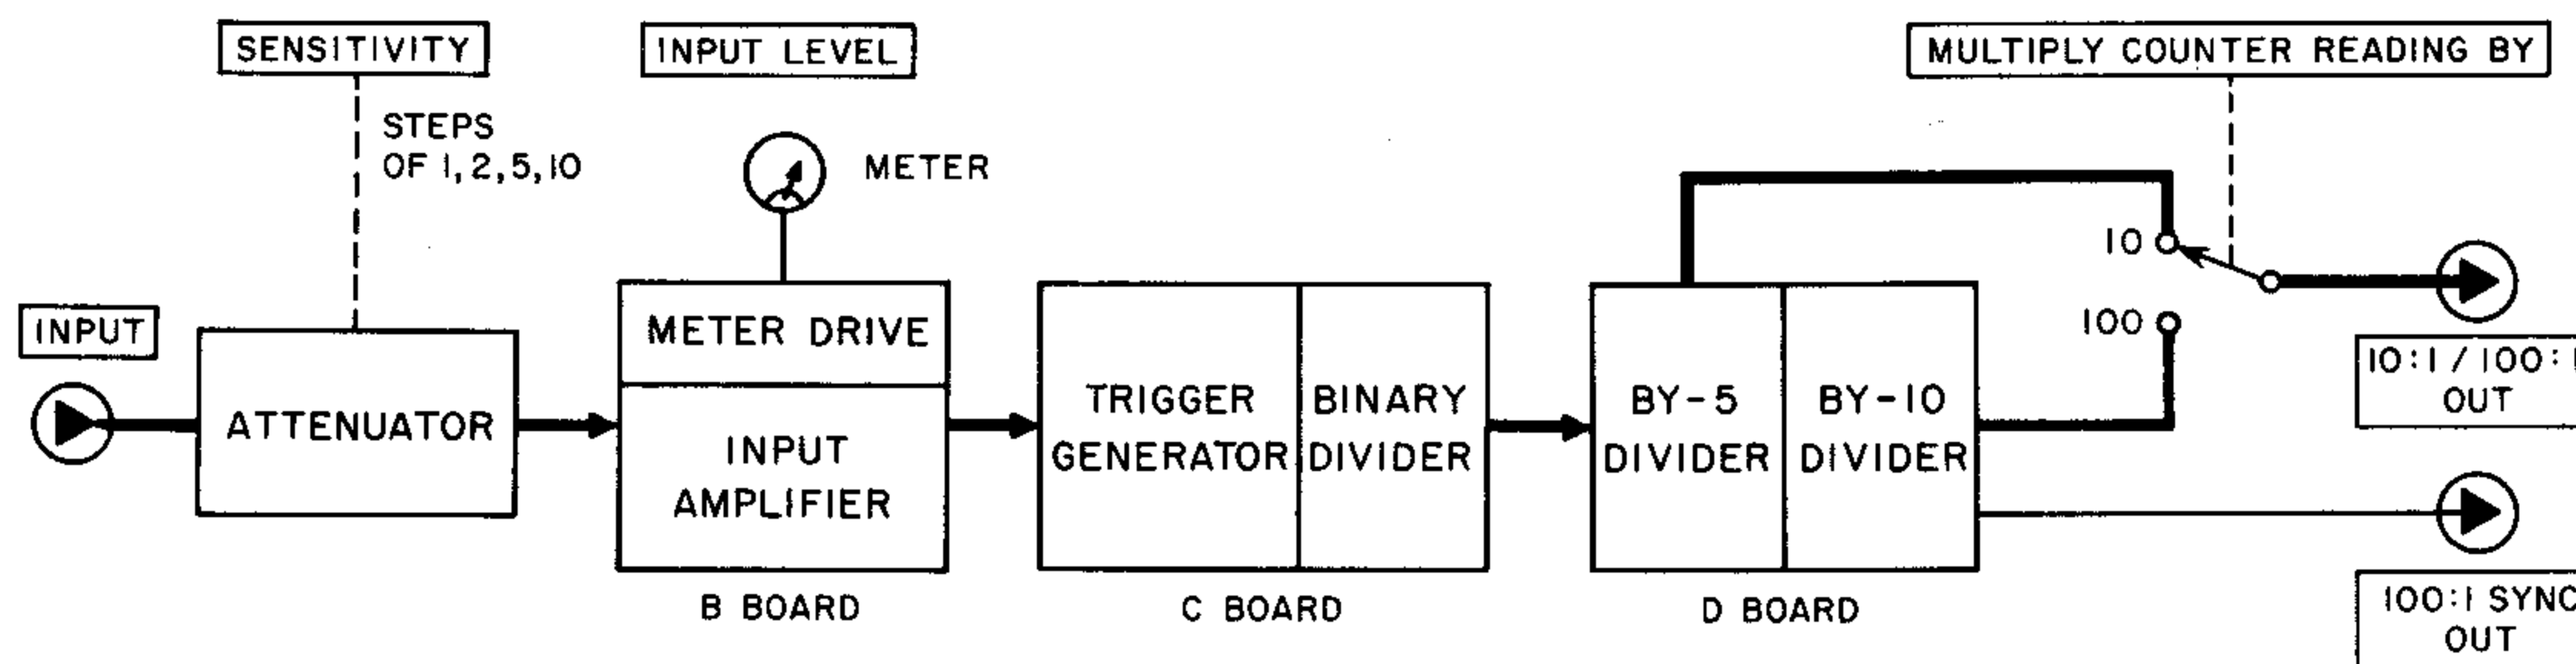

Figure 4-1. Block diagram of 1157-B Scaler.
4.2 BLOCK FUNCTIONS (Figure 4-1).